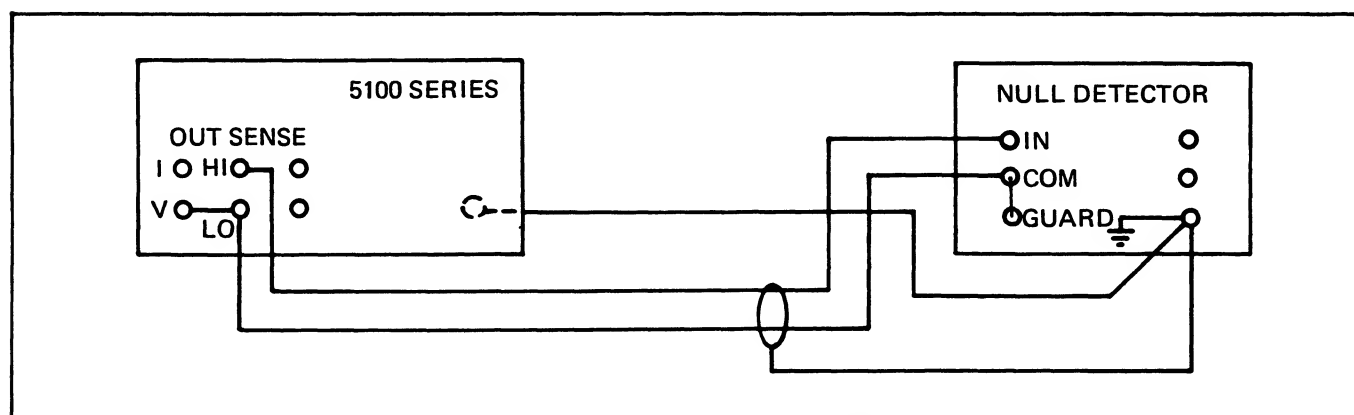

Figure 4-3. Offset Voltage Checks
- Prepare the test null detector to read a null ± 5 μ V, then connect the equipment as shown in Figure 4-3.